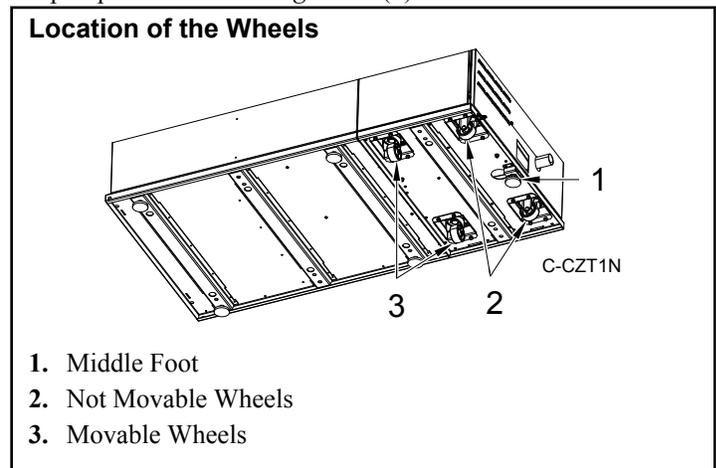

Figure 21
3. Mount the two moveable wheels (SP541494) to the heat pump base. Refer to *Figure 21* (1).
4. Mount the two not moveable wheels (SP551864) to the heat pump base. Refer to *Figure 21* (2).